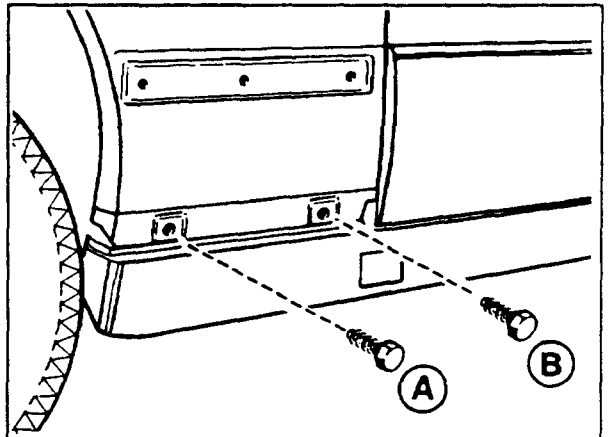

Figure 2
3. Remove the two fastening bolts (A and B, Figure 2).